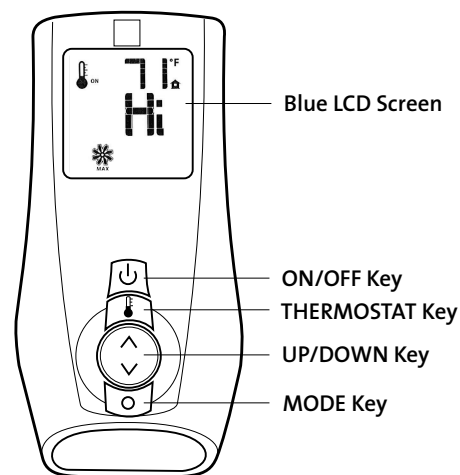
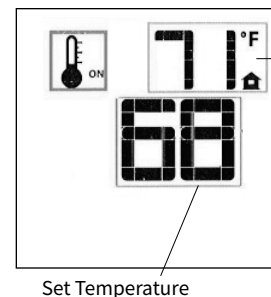
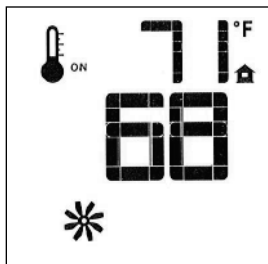

Figure 40. Remote transmitter function keys.
Figure 48. Thermostat ON
Figure 52. Fan Mode
- To activate this function, press the Thermostat Key, (Fig. 40.) The display will indicate that the room thermostat is "ON" and the current Set Temperature is now displayed. Fig. 48.
- Fan speed can be adjusted through six settings. To activate this function, press the Mode Key (Fig. 40) to index to the Fan Control icon. See fig. 52.